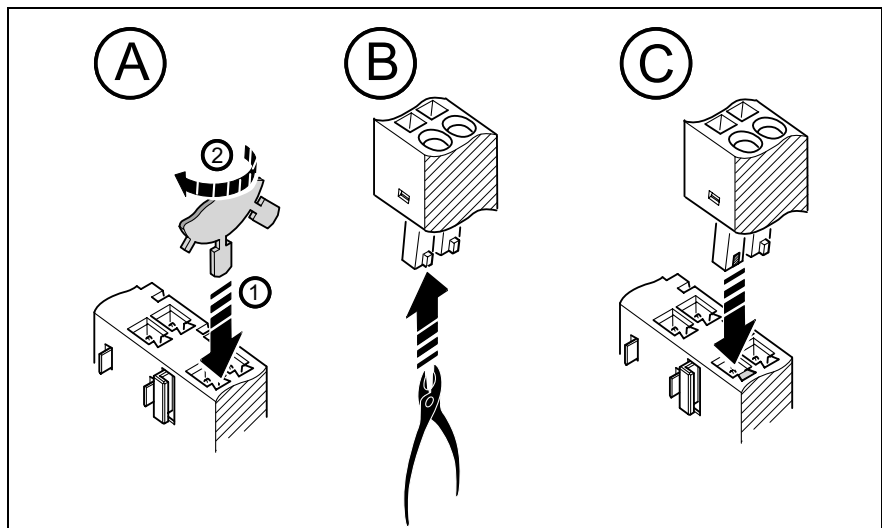

Fig. 4-5: Connector coding
- For this purpose, put a coding profile into the coding keyway in the socket (1) and pull it off the small plate (2) by rotation (Fig. 4-5, / A).
- Use a side-cutting pliers to cut the respective coding tab off the connector (Fig. 4-5 / B).
Now, only socket and connector of the same coding fit together (Fig. 4-5 / C).